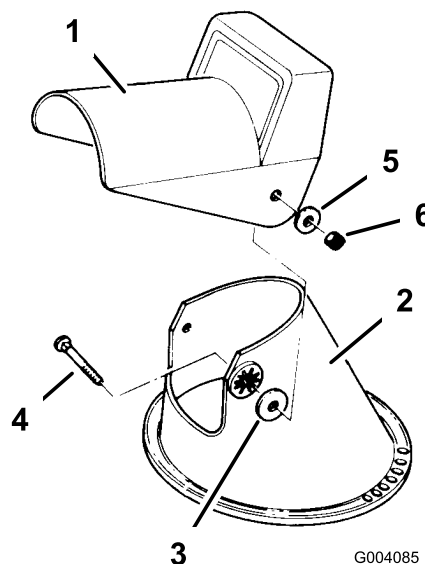

Figure 6
1. Position the chute deflector onto the discharge chute and align the mounting holes (Figure 6).
2. Insert a rubber washer between the chute deflector and the discharge chute on each side while maintaining the hole alignment (Figure 6).
Note: Ensure that the square shoulders on the carriage bolts align with the inside square on the discharge chute. Position the metal washers to the outside of the chute deflector as shown in Figure 6. Do not overtighten the bolts.